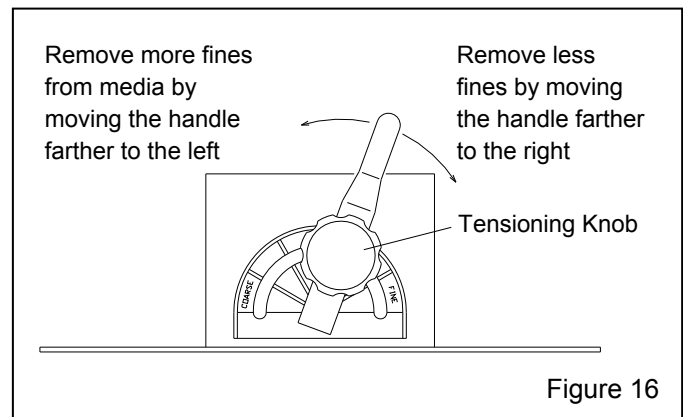

Figure 16
5.5.1 The vortex cylinder is located atop the reclaimer where the flex hose connects. Adjustments are made by loosening the handle's tensioning knob and moving the handle to achieve the correct setting. When the correct setting is established, tighten the locking knob to prevent movement. Start with the lever slightly to the right (about one o'clock as shown in Figure 16) of the vertical position.